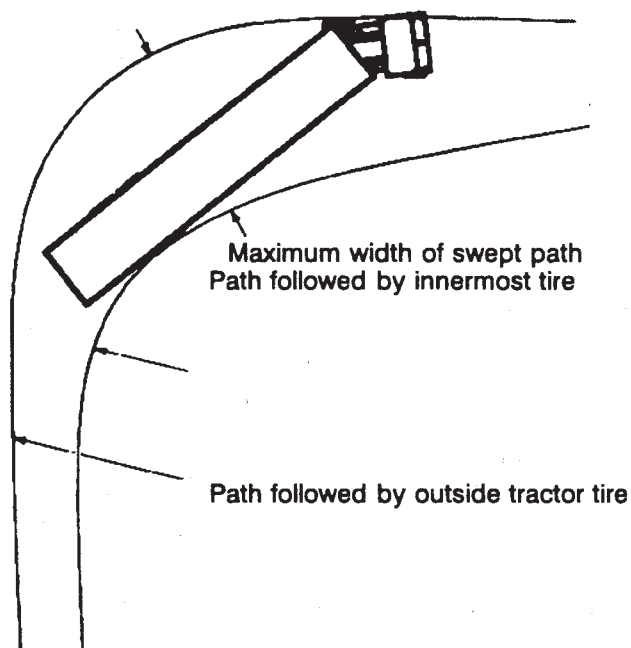
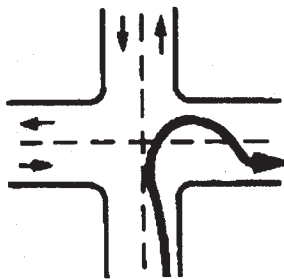

Figure 6-4
Figure 6-5
"cheating." Figure 6-4 shows how offtracking causes the path followed by a tractor-semi to be wider than the rig itself. Longer vehicles will offtrack more. The rear wheels of the powered unit (truck or tractor) will offtrack some, and the rear wheels of the trailer will offtrack even more. If there is more than one trailer, the rear wheels of the last trailer will offtrack the most. Steer the front end wide enough around a corner so the rear end does not run over the curb, pedestrians, other vehicles, etc. However, keep the rear of your vehicle close to the curb. This will stop other drivers from passing you on the right. If you cannot complete your turn without entering another traffic lane, turn wide as you **complete the turn** (Figure 6.5). This is better than swinging wide to the left before starting the turn because it will keep other drivers from passing you on the right. If drivers pass on the right, you might collide with them when you turn.
5. Why should you turn like it shows in Figure 6-5?